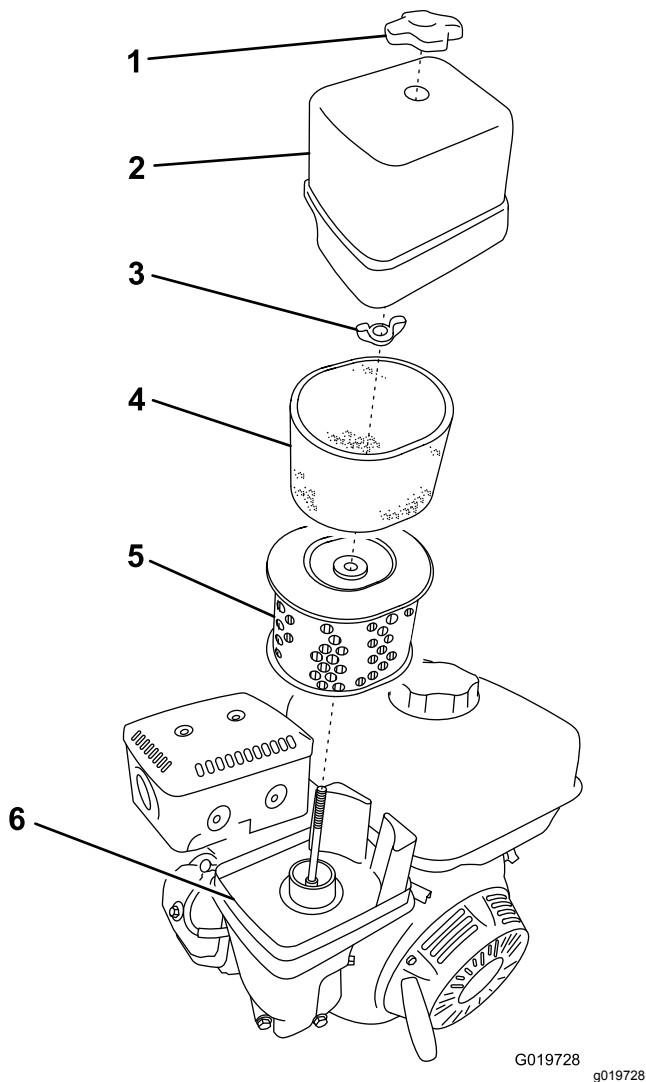

Figure 33
3. Remove the nut that secures the cover (Figure 33).
- Remove the foam and paper elements from the base (Figure 33).
- Remove the foam element from the paper element (Figure 33).